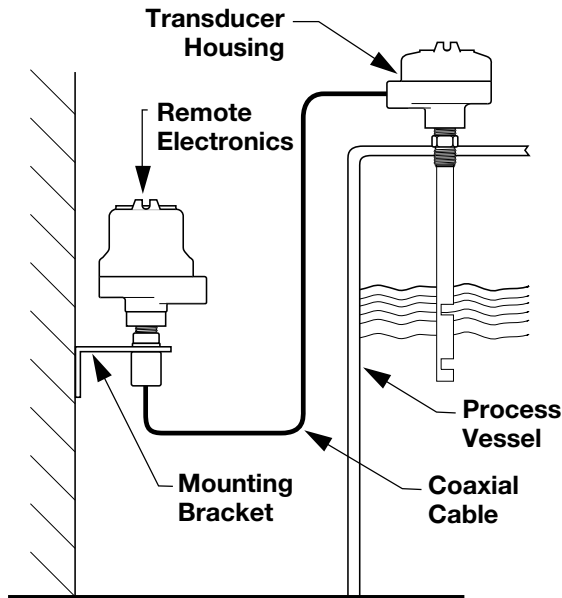

Figure 8
7. Run coaxial cable from transducer housing termination board through the bottom housing connection, as shown in Figure 8 above.
All 91S/92S remote units are equipped with a transducer housing, as shown in Figure 8.